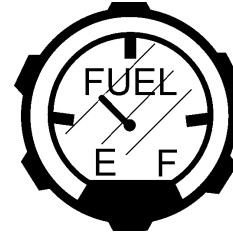

Figure 12. Fuel Gauge
3. Read the fuel gauge (Figure 12) located on top of the filler cap to determine if fuel level is low.